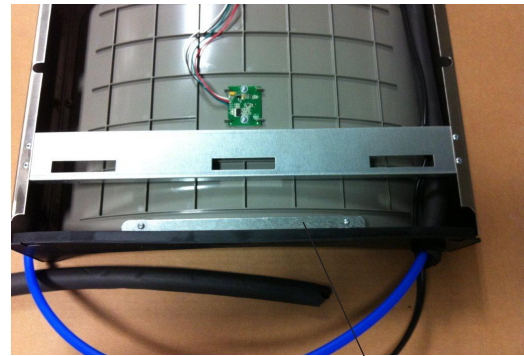

Fig. 10
- 6) Install gasket on bottom of bottle filler tower with gasket support bracket & (2) screws (See Fig 10).